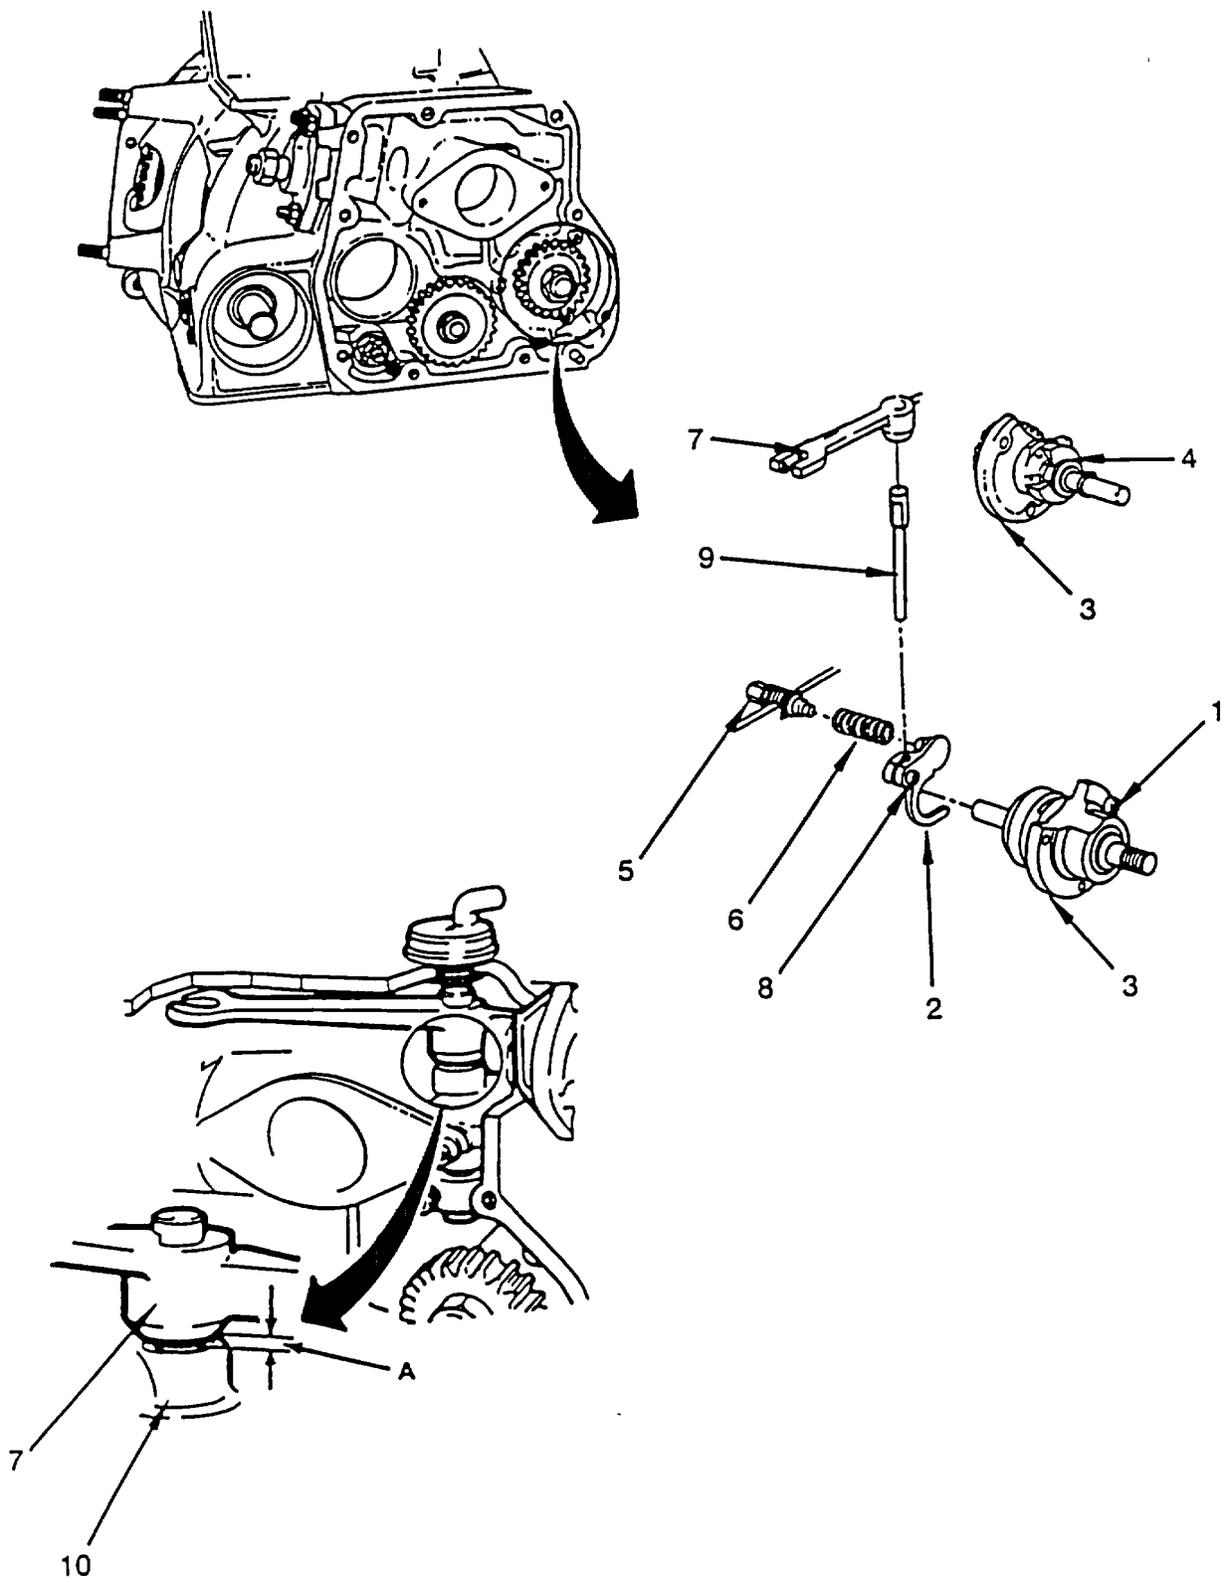

Figure 6-7. Governor Linkage Adjustment
a. Adjust. (Refer to Figure 6-7).
- (1) Install fuel injection pump (Reference para 5-10.d.).
- (2) Set Governor Linkage
- (a) Loosen socket head screw (1).
- (b) Check that bracket (2) is hard against governor (3) with sliding cones (4) and governor (3) together.
- (c) If bracket (2) is not hard against governor (3), adjust speed adjuster (5) against spring (6) to position cones (4) and governor (3) together.
- (d) Push fuel injector pump operating lever (7) toward flywheel to maximum position.
- (e) Loosen setscrew (8) and move bracket (2) up and down shaft (9).
- (f) Insert feeler gage at point A Push down on lever (7) while pushing up on bracket (2).
- (g) Set distance between lever (7) and top of governor shaft bushing (10) to 0 010 inch (0 25 mm).